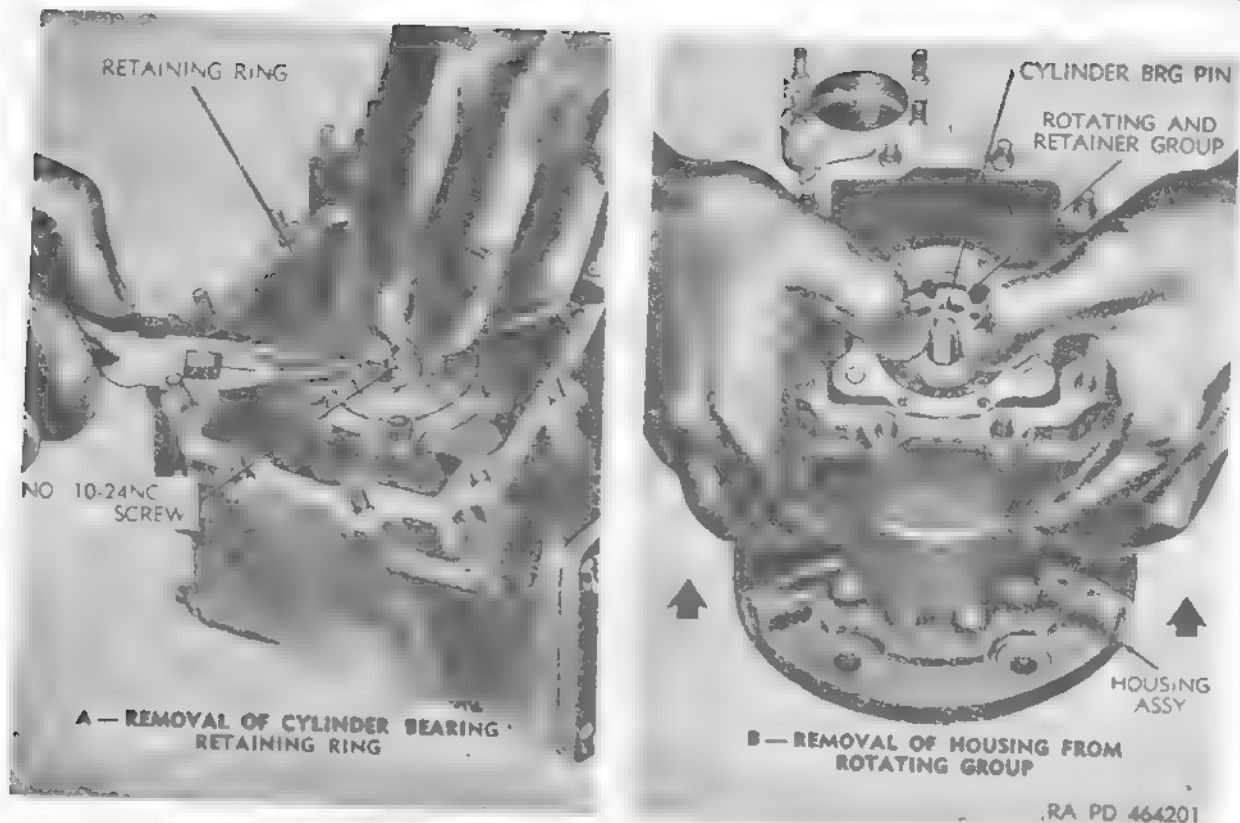

Figure 129. Axial pistons pump assembly—disassembly and assembly—continued.
- (j) Insert a No. 10-24NC screw (A, fig. 129) into the threaded cylinder bearing pin and remove the retaining ring.
- (k) Break the seal between the piston cylinder manifold (fig. 130), the yoke plate (D, fig. 126), and face of swivel yoke (J, fig. 126) by holding the cylinder bearing pin (B, fig. 129) down while removing the yoke plate.
(m) Remove the rotating and retainer group (B, fig. 129) by lifting the housing while holding the rotating
- (g) Apply enough weight to the housing assembly (R) to overcome the resistance of the preformed packing (Q4), and seat the seal retainer (Q5) in the housing assembly.
- (h) Insert a No. 10-24NC screw (A, fig. 129) into the end of the cylinder bearing pin.